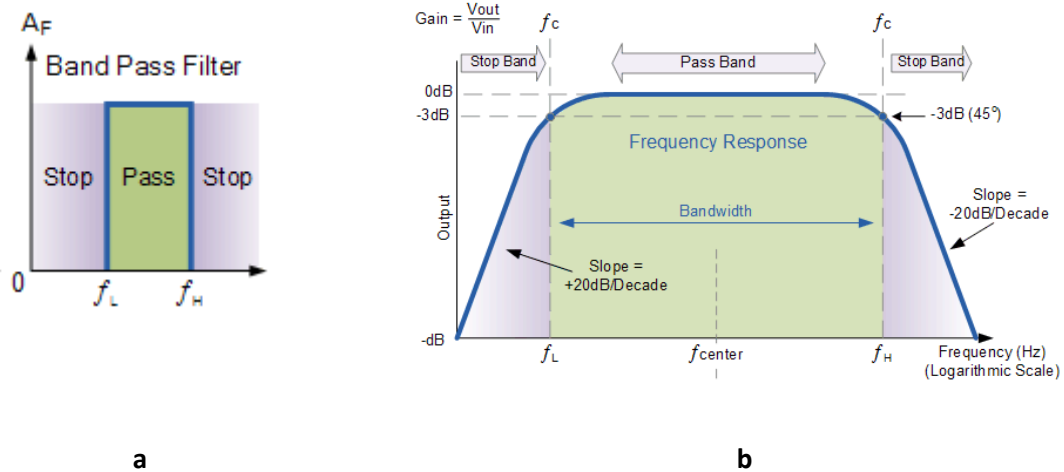
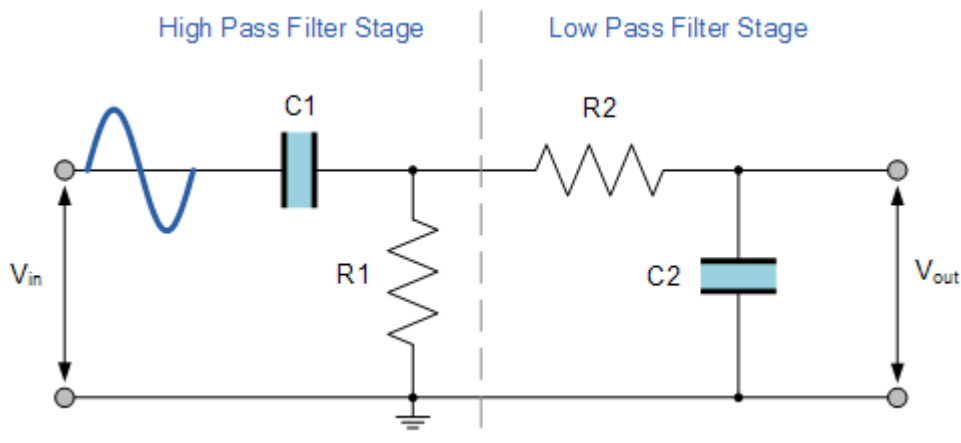

Figure 5: a) Ideal High Pass Filter frequency response, b) Realistic High Pass Filter frequency response
Figure 6: Band Pass Filter Circuitry Schematic
Band Pass Filters are combinations of a low pass filter and a high pass filter as cutoff frequency of low pass filter (f_L) is being smaller than cutoff frequency of high pass filter (f_H). The circuitry given in Figure 6 provides a band pass filter characteristic shown in Figure 5.
- Calculate the resistance values ($R1$ - $R2$) for a bandpass filter for circuitry given in Fig. 6 with the values given below:
4. Build and connect the circuit shown in Figure 6 with $R_1 = 1\text{ k}\Omega$, $R_2 = 2\text{ k}\Omega$, $C_1 = 1\text{ }\mu\text{F}$, and $C_2 = 2\text{ }\mu\text{F}$ and repeat step 2 for Table 3.